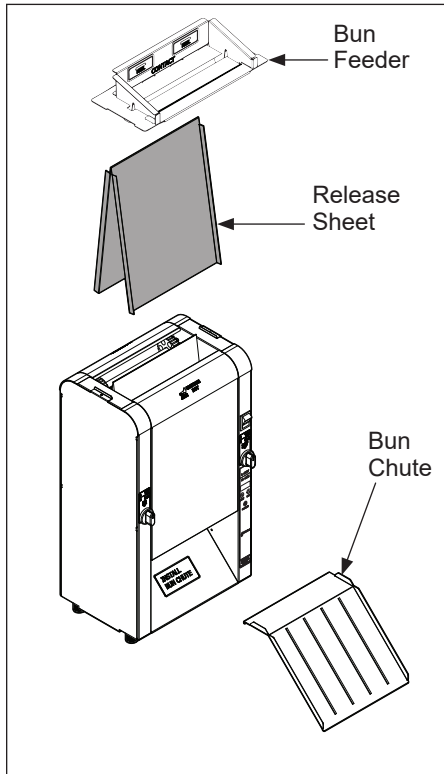

Figure 13. Remove Bun Feeder, Release Sheet, and Bun Chute
2. Put on heat resistant gloves. Remove the Bun Feeder, Release Sheet, and Bun Chute (Figure 13). Set these items aside.